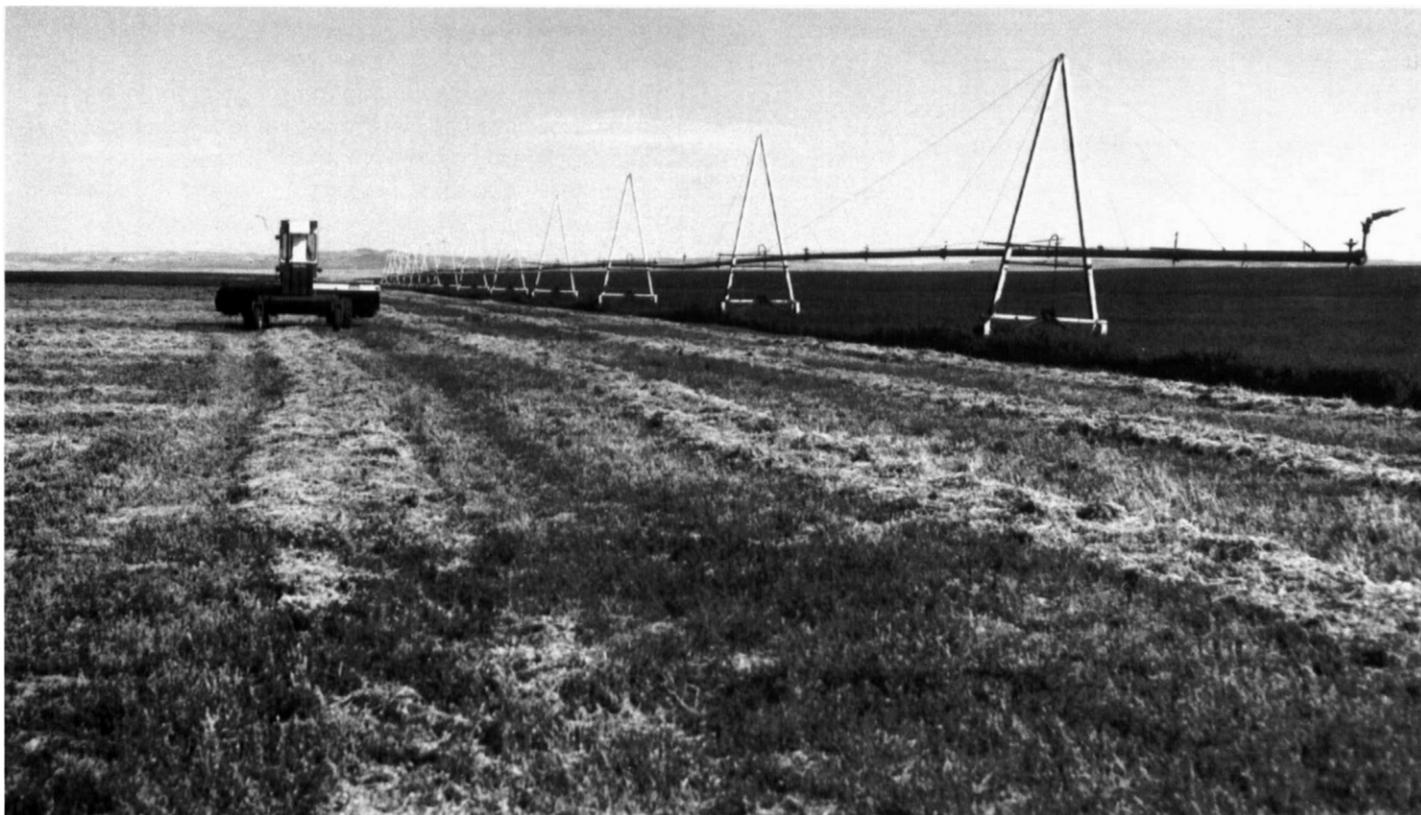

Figure 10.—Irrigated alfalfa in an area of Jayem loamy very fine sand, 0 to 3 percent slopes.
- A sprinkler system is the best method of irrigation because extensive land leveling would be required if surface irrigation methods were used (fig. 10).